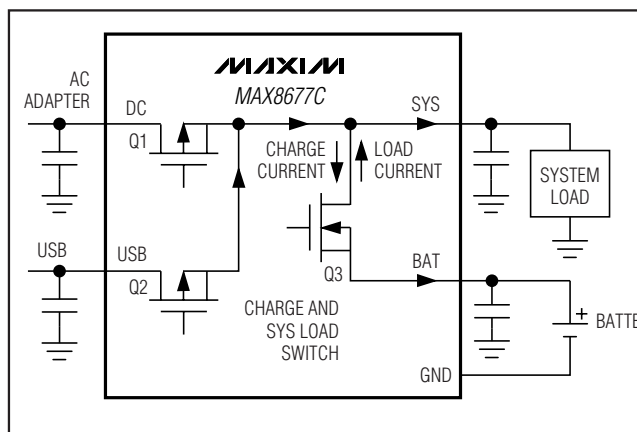

Figure 4. Smart Power Selector Block Diagram
The MAX8677C Smart Power Selector seamlessly distributes power between the external inputs, the battery, and the system load (Figure 4). The basic functions performed are:
An internal 40mΩ MOSFET connects SYS to BAT (Q3, Figure 4) when no voltage source is available at DC or USB. When an external source is detected at DC or USB, this switch is opened and SYS is powered from the valid input source through the input limiter.
The input voltage limiter is essentially an LDO regulator. While in dropout, the regulator dissipates a small I^2R loss through the 0.2Ω MOSFET (Q1, Figure 4) between DC and SYS. With an AC adapter or USB source connected, the input limiter distributes power from the external power source to the system load and battery charger. In addition to the input limiter's primary function of passing power to the system and charger loads at SYS, it performs several additional functions to optimize use of available power:
- **Input Voltage Limiting.** If an input voltage is above the overvoltage threshold (6.9V typ), the MAX8677C enters overvoltage lockout (OVLO). OVLO protects the MAX8677C and downstream circuitry from high-voltage stress up to 14V at DC and 8V at USB. In OVLO, VL remains on, the input switch that sees overvoltage (Q1, Q3, Figure 4) opens, and the appropriate power-monitor output (\overline{DOK} , \overline{UOK}) is high impedance, and \overline{CHG} is high impedance.
If both DC and USB see overvoltage, both input switches (Q1 and Q2, Figure 4) open and the charger turns off. The BAT-SYS switch (Q3, Figure 4) closes, allowing the battery to power SYS.
An input is also invalid if it is less than BAT, or less than the DC undervoltage threshold of 3.5V (falling). With an invalid input voltage, SYS connects to BAT through a $40m\Omega$ switch (Q3, Figure 4).
- **Adaptive Battery Charging.** While the system is powered from DC, the charger draws power from SYS to charge the battery. If the charger load plus system load exceeds the input current limit, an adaptive charger control loop reduces charge current to prevent the SYS voltage from collapsing. Maintaining a higher SYS voltage improves efficiency and reduces power dissipation in the input limiter. The total current through the switch (Q1 or Q2 in Figure 4) is the sum of the load current at SYS and the battery charging current. The limiter clamps at 4.35V, so input voltages greater than 4.35V can increase power dissipation in the limiter. The limiter power loss is $(V_{\text{DC}} - 4.35) \times I$, but not less than $I^2 \times 0.2\Omega$. Also note that the MAX8677C turns off any input that exceeds 6.9V (nominal).